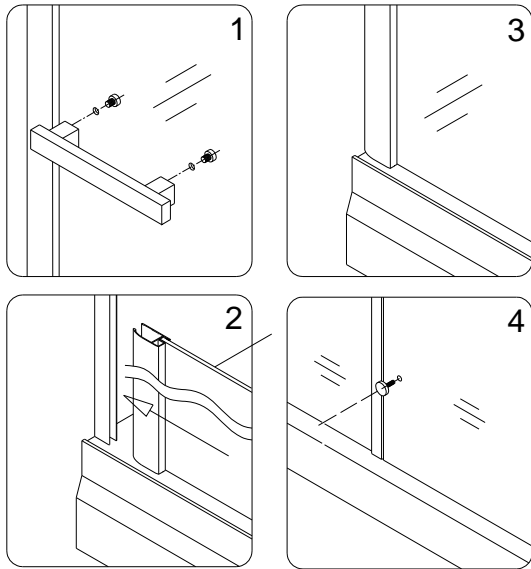

Fig 29
27. If you do not see any leakage, install the maintenance door handle. Push the **glass profile** of the maintenance door over the **wall profile**. Secure the **glass profile** and **narrow stationary glass profile** using **Bolt (15)**. See Fig 29 for details.